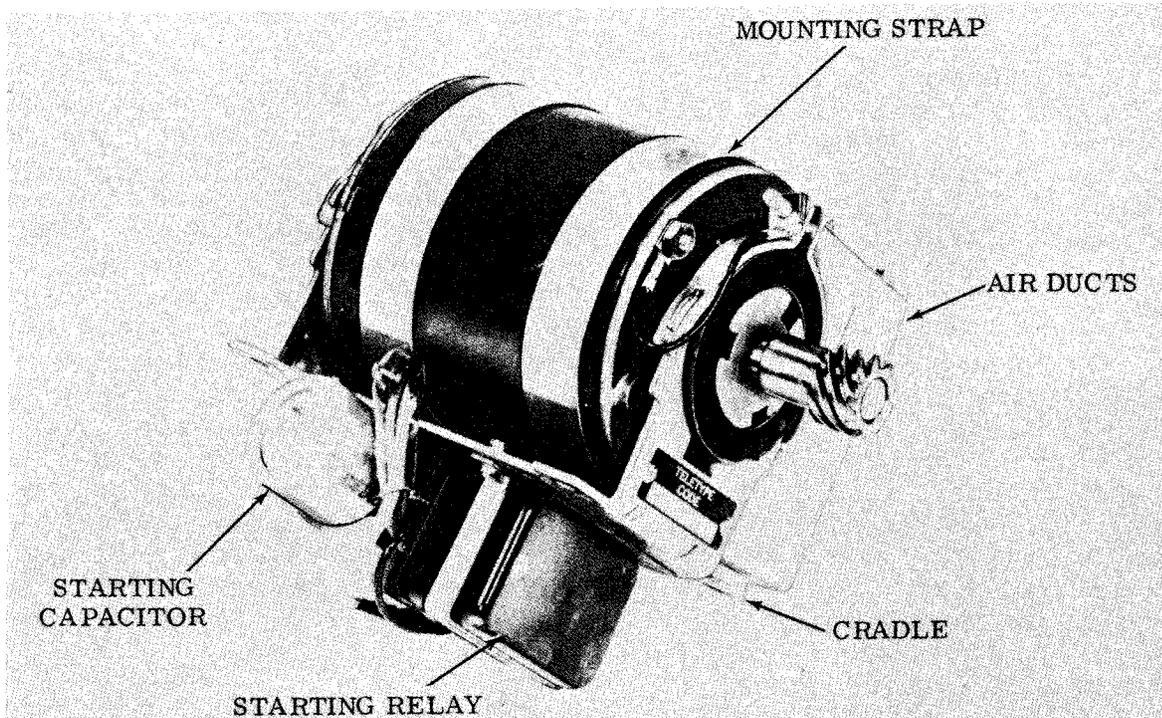

Figure 1-17. Typical Miniature Synchronous Motor Unit
(1) The synchronous motor units (figures 1-17, 1-18, and 1-19) consist of a motor, mounting arrangement, and required starting and protective devices. They are available in miniature (25 millihorsepower), standard and heavy duty ratings. They must be operated from a standard, single-phase, regulated power source.